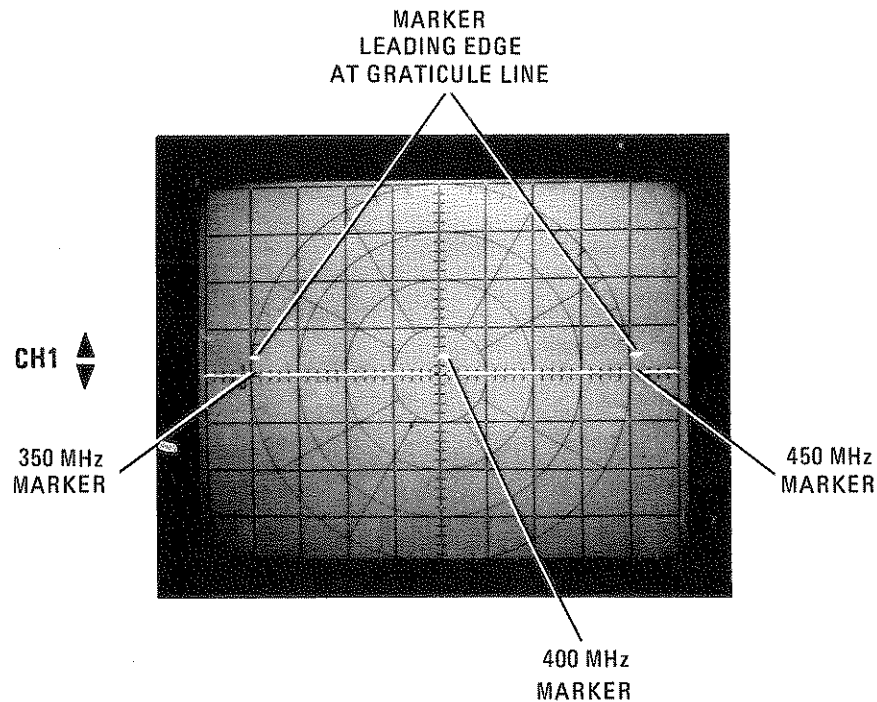

Figure 3-25. Positioning of Markers
- h. On the 8754A, set SWEEP WIDTH MHz to 200 MHz, MARKERS MHz to 50 MHz. Adjust TUNING vernier control to set leading edge of 400 MHz marker on the center graticule line of the CRT. Adjust SWEEP WIDTH MHz vernier so the 350 MHz and 450 MHz markers move out to where their leading edges are on the first graticule lines (major division lines) in from the left and right edges of the CRT display, as shown in Figure 3-25.
- o. Refer to Figure 3-25. On the 8750A, adjust the Interface Board SWP IN OFF (Sweep Input Offset) so the leading edge of the 350 MHz marker is on the first graticule line in from the left side of the CRT screen. Adjust the SWP IN GAIN so the leading edge of the 450 MHz marker is on the first graticule line in from the right side of the CRT screen.